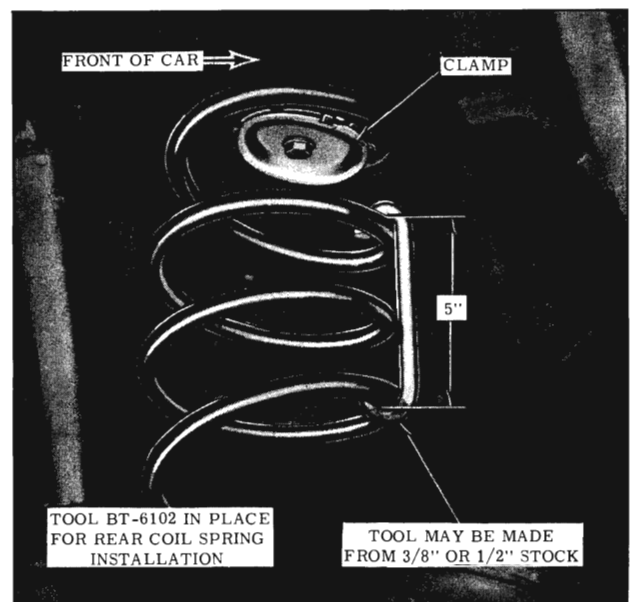

Fig. 5-34 Coil Spring Installation
4. Install Spring Holding Tool BT-6102 at front of spring. (Fig. 5-34)